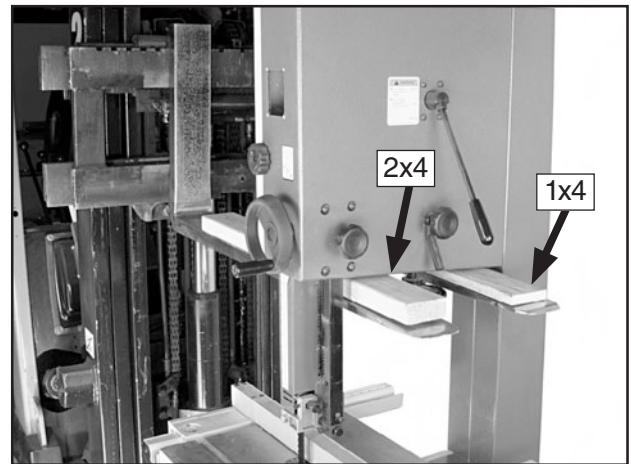

Figure 17. Example of lifting bandsaw with forklift using wood shims.
1. Carefully place the forklift forks under the head and install a 1x4 shim between the head and the left fork and a 2x4 shim between the head and right fork so the bandsaw is level, as shown in **Figure 17**.